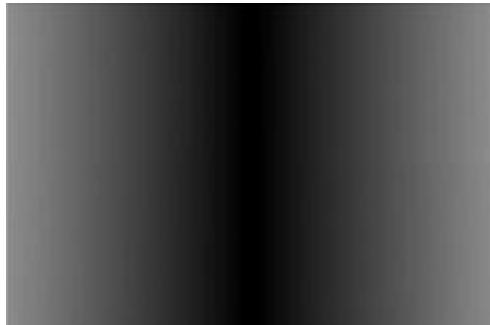

Figure 5-15
14) TestPattern: Sensor image output mode selection, supporting Off (real-time data) and Gradient Grey as shown in Figure 5-15.